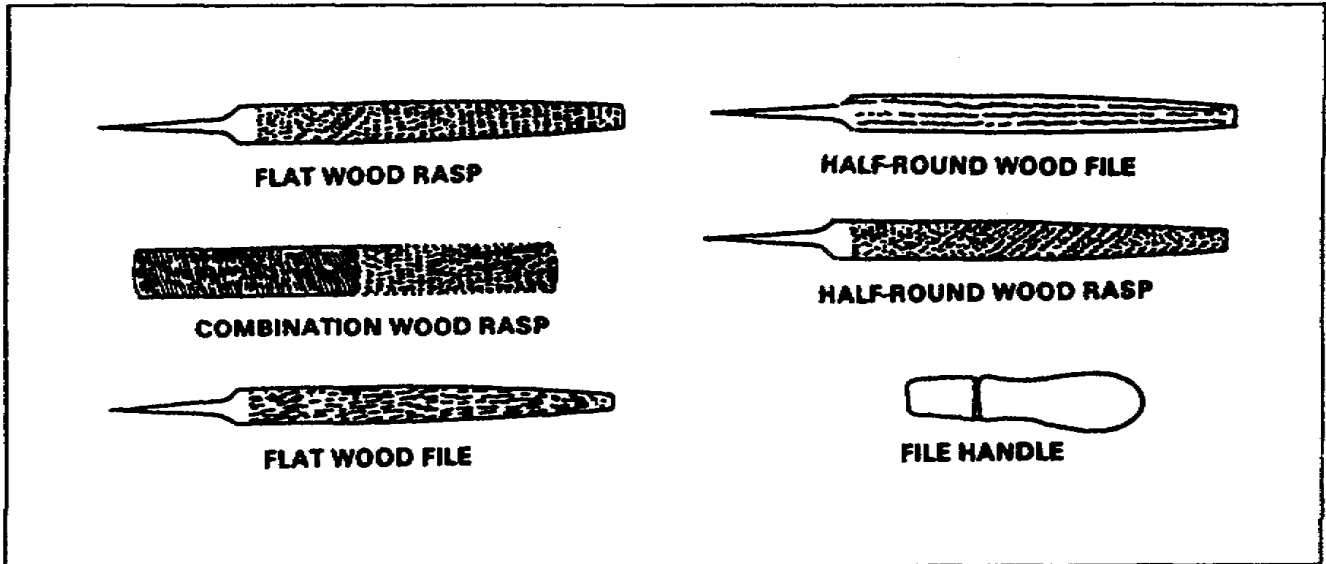
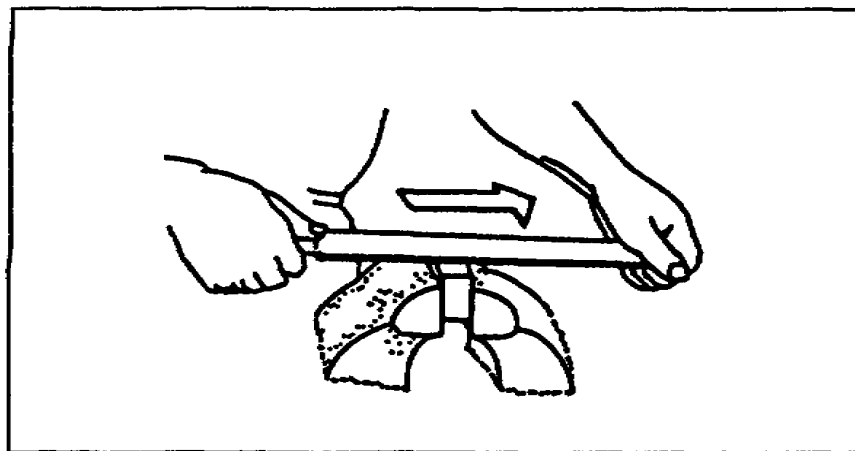

Figure 2-51. Files and rasps
Figure 2-52. Using a rasp
d. Files and Rasps. A file is a steel instrument used for cutting and smoothing metal and wood. A rasp is a very coarse file that differs from an ordinary file in teeth size and shape. Figure 2-51 shows the types of files. Wood files are usually tempered to work lead or brass; they should not be used on any harder surface. When using a file, never allow it to drag on the backward stroke; it cuts only on the forward stroke. When using a rasp, fix the work firmly in a vise and grasp the rasp in both hands, with one hand holding and the other applying a light pressure to the rod (Figure 2-52).